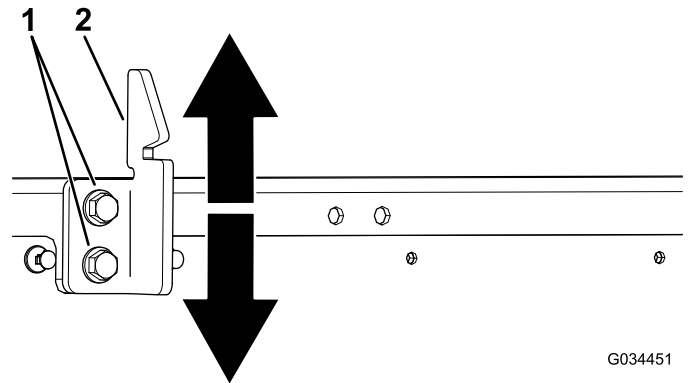

Figure 52
3. Loosen the 2 bolts on the bed-latch striker and move the striker up or down, depending on if the striker is too high or too low (Figure 52).
4. Tighten the 2 bolts on the bed-latch striker (Figure 52).